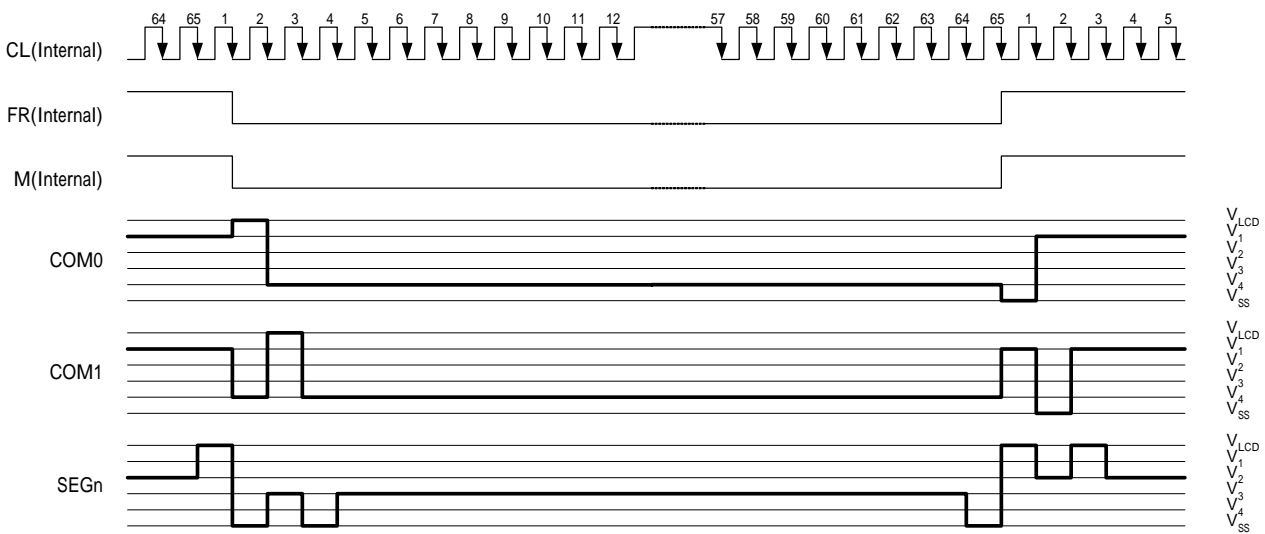

Fig.13 2-frame AC Driving Waveform (Duty Ratio: 1/65)
This circuit generates some signals to be used for displaying LCD. The display clock, CL (internal), generated by oscillation clock, generates the clock for the line counter and the signal for the display data latch. The line address of on-chip RAM is generated in synchronization with the display clock and the display data latch circuit latches the 102-bit display data in synchronization with the display clock. The display data, which is read to the LCD driver, is completely independent of the access to the display data RAM from the microprocessor. The display clock generates an LCD AC signal (M) which enables the LCD driver to make a AC drive waveform, and also generates an internal common timing signal and start signal to the common driver. Driving waveform and internal timing signal are shown in Figure 13.
V	When V = 0, the horizontal addressing is selected. The data is written into the DDRAM as shown in Fig13. When V = 1, the vertical addressing is selected. The data is written into the DDRAM as shown in Fig12